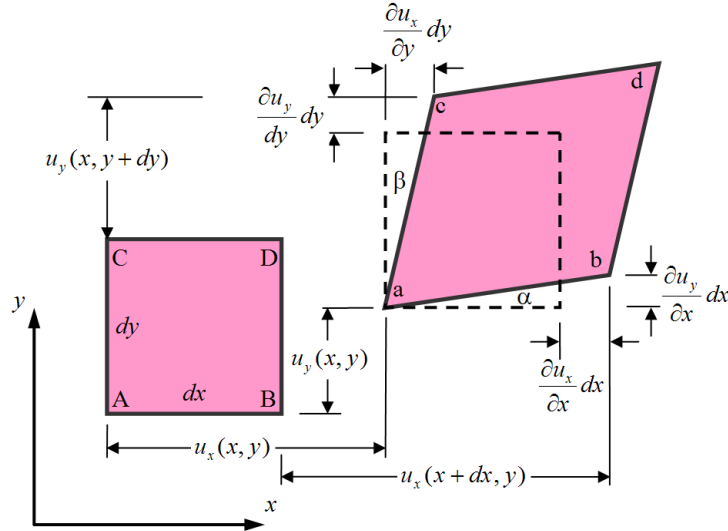

Figure 1: An infinitesimal small deformed rectangle.
The relation (2) is a purely geometric one. Consider an infinitesimal small square of size  $dx$  and  $dy$ , and its deformed geometry as depicted in Figure 1. The strain is defined as the stretching of the element, i.e.